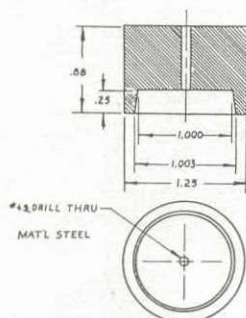

FIGURE 4
3. If possible, clamp the cable in a vise, vertically, and using the pipe cap center hole, very carefully, drill a #42 size tap-hole straight down 1/2 inch into the copperclad center conductor of the cable. (For quantity jobs, get a machinist friend to make up a drill guide as shown in Fig. 4.)* Then tap the center conductor for the #4-40 screw, removing chips from the tap and the hole after each half turn of the tap.